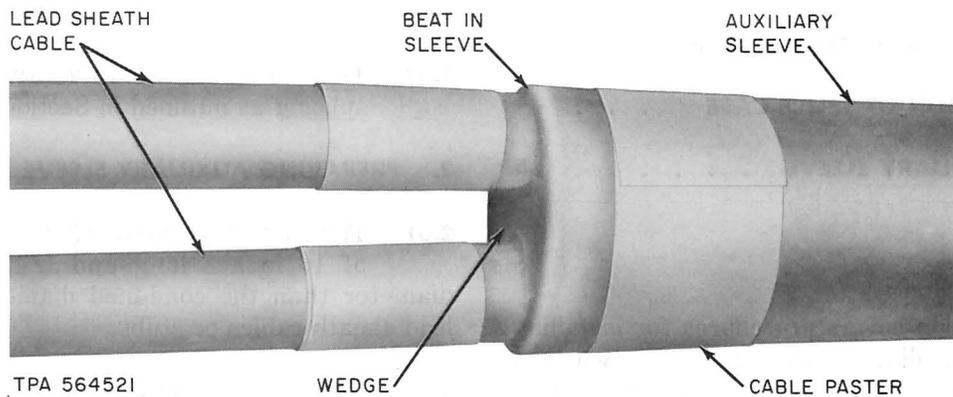

Fig. 2—Joint Prepared for Wiping
3.01 Slide the auxiliary sleeve with the stearine coated end away from the splice over the cables and place a lead wedge between the stub cables as shown in Fig. 2.
3.02 Beat in sleeve to form a tight fit between the cables, lead wedge, and auxiliary sleeve (Fig. 2).